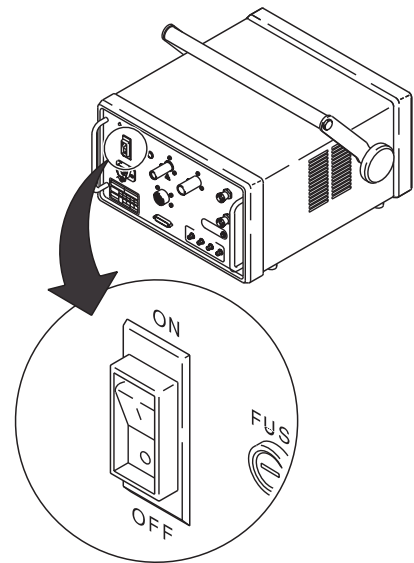

Figure 8 *Turning the Power Supply ON*
5. Turn the power ON. See Figure 8.